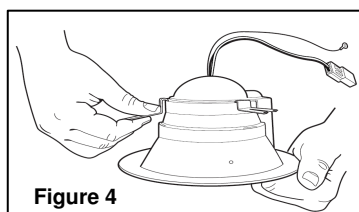
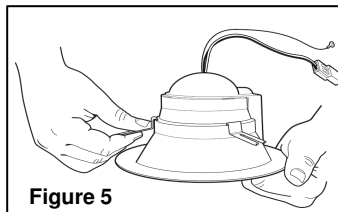
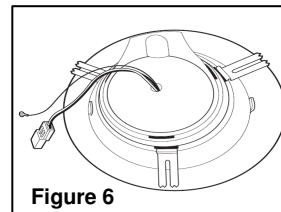

Figure 4
Figure 5
Figure 6
- Housing inside diameter 6.20" or less; use upper clip slots (Figure 4). Insert clips at the upper three slots (Figure 6).
- Housing inside diameter 6.20" or more; use lower clip slots (Figure 5). Insert clips at the lower three slots (Figure 6).
- If the retention clips are in the bottom position (see Figure 4), make sure there are no obstructions that will interfere with the clips 1" from the bottom of the recessed housing.
- If the retention clips are in the top position (see Figure 5), make sure there are no obstructions that will interfere with the clips within 2-1/4" from the bottom of the recessed housing